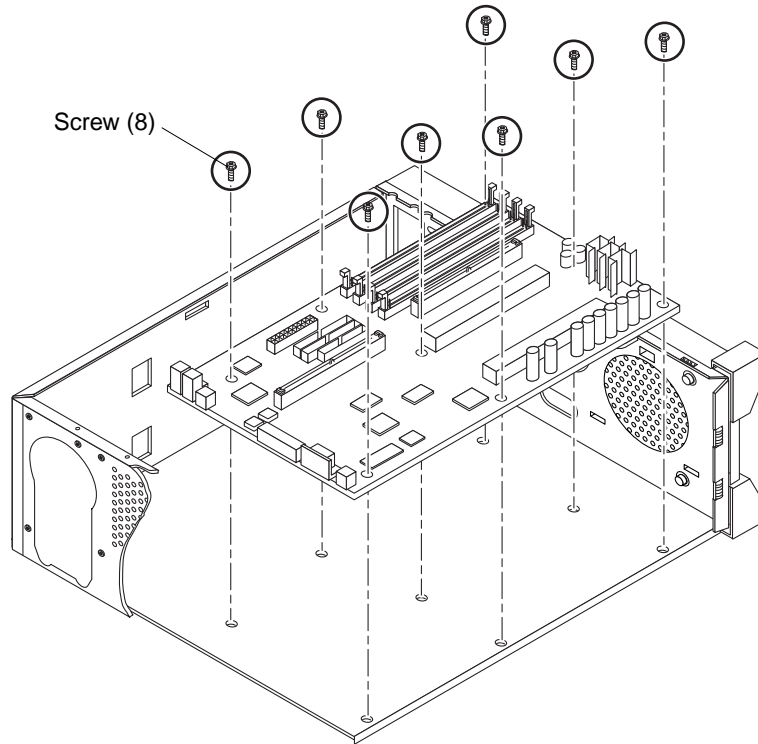

FIGURE 8-7 Removing and Replacing the Motherboard
2. Remove the motherboard as follows (FIGURE 8-7):
- Replace the motherboard as follows (FIGURE 8-7):